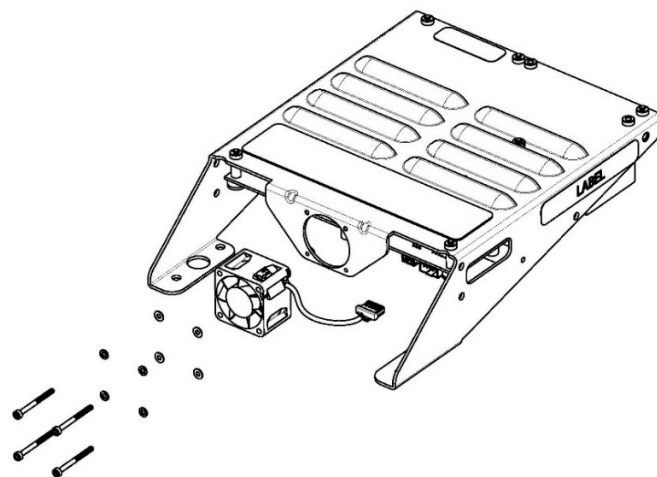

Figure 2. Soft Start with Old Style Fan
1. Remove the top cover by releasing the nine (9) screws that secure the cover, taking particular care not to touch ANY components underneath.
2. Using an appropriately rated volt meter, check the DC bus bars for voltage level. If the voltage is above 5VDC, wait five (5) minutes and recheck until 5VDC or below is achieved.
4. Remove the four (4) mounting screws securing the cooling fan to the Soft Start Bracket. Be careful not to drop the fasteners onto the compressor components. Refer to Figure 2 for details.